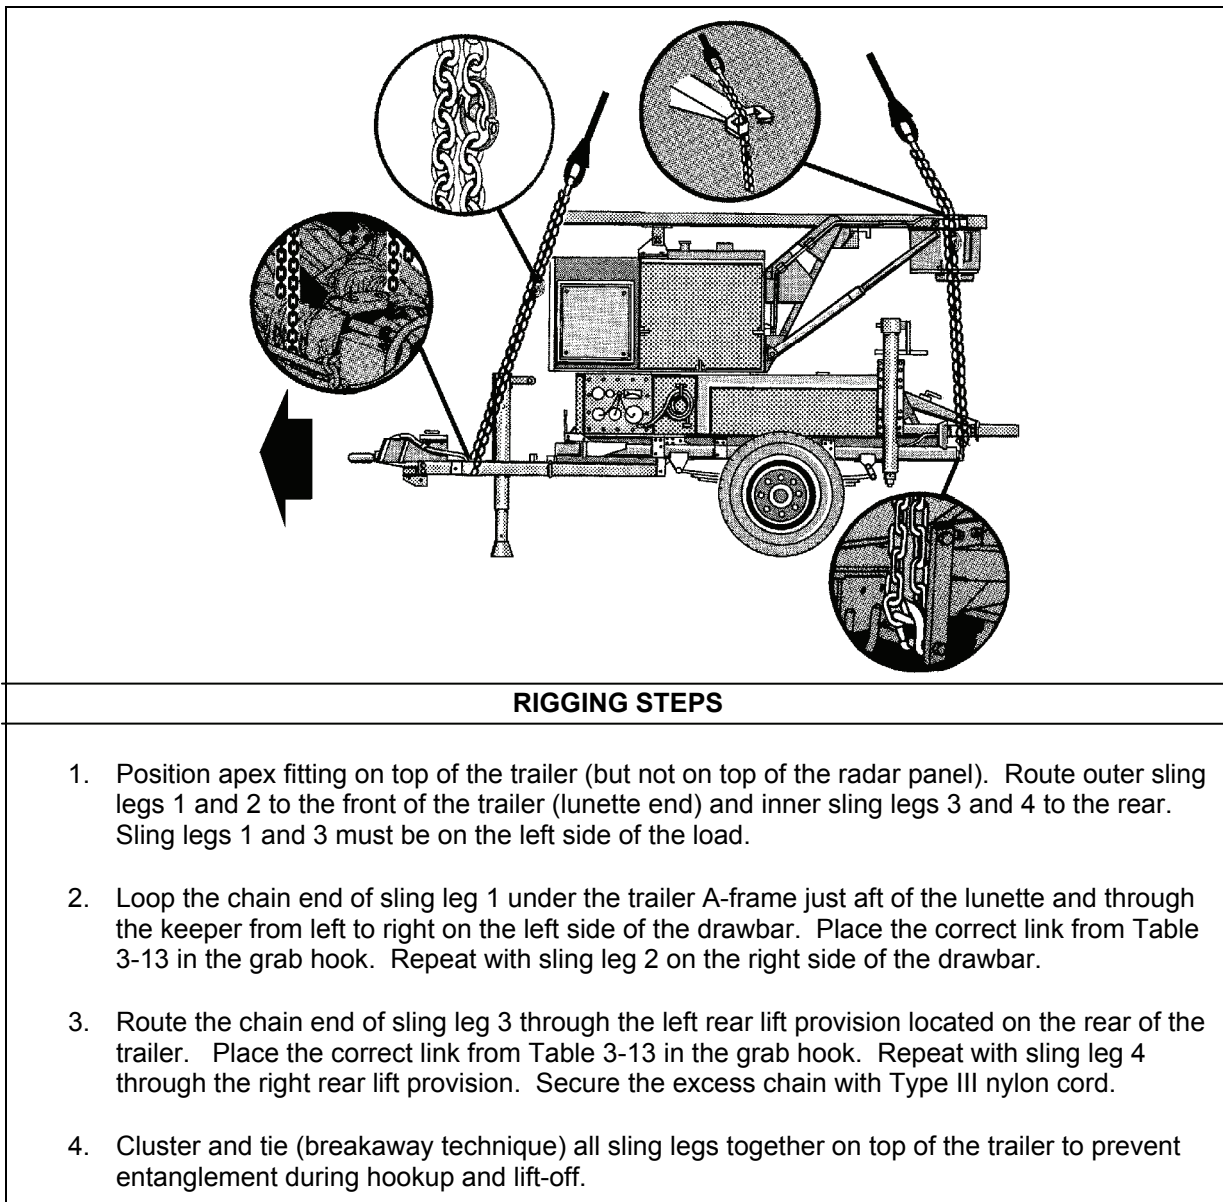

Figure 3-13. M116A2 Trailer with AN/TPQ-36 Firefinder Antenna Transceiver Group
- **Rigging.** Rig the load according to the steps in Figure 3-13.